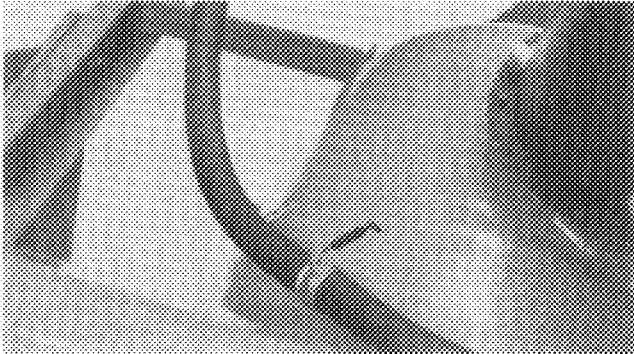

Figure 9
- Grease flexible shaft (Fig. 9) with No. 2 lithium base grease until grease appears at each end of flexible shaft.